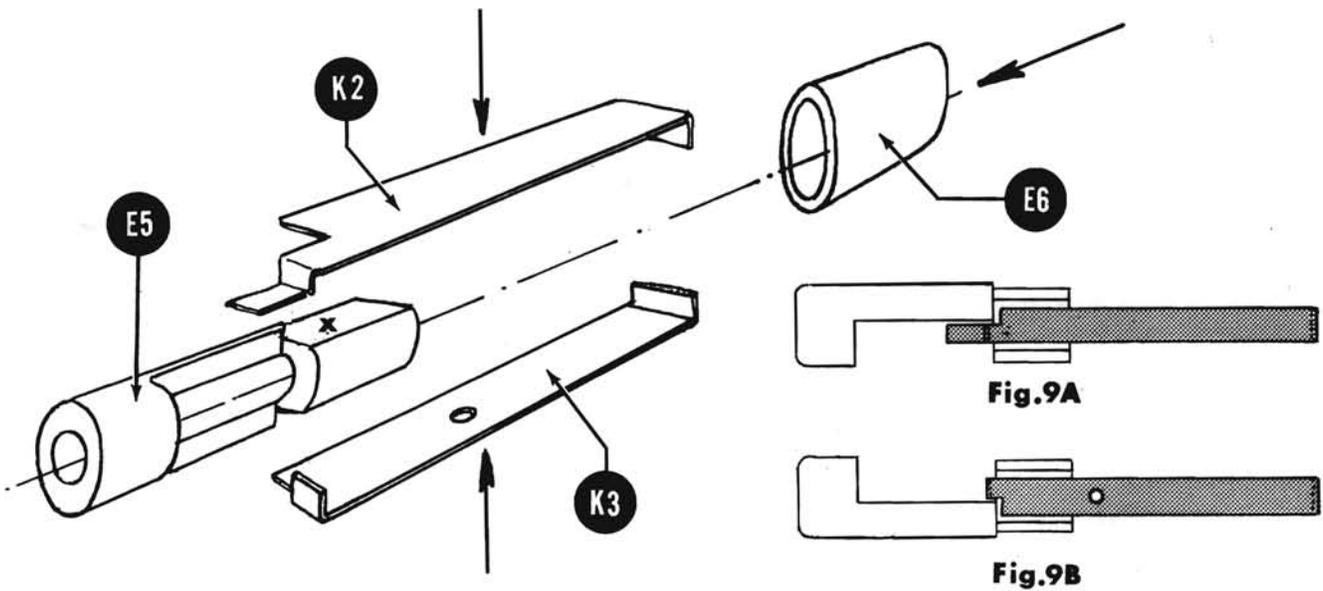

Fig. 9
- (✓) Fig. 9. Study the figure before proceeding with the assembly. Phosphor-bronze contacts K2 and K3 are formed differently and may not be interchangeable from the relative positions shown in the drawing. K2 and K3 can most easily be told apart by the small hole to be found in K3 but not in K2. Assemble as follows: Hold the black fiber contact holder E5 as shown in the figure. Lay K2 against the flat surface X of E5, position it as shown in Fig. 9A, and hold it there. Then lay K3 against the parallel flat surface of E5 underneath, position it as shown in Fig. 9B, and hold K3 in place also. Next catch the free ends of K2 and K3 in the large diameter Fiber tube E6, and then move E6 down over K2 and K3 to pin them against the flat surfaces of E5. This is a fairly tight fit and some force is required. E6 should finally rest against the shoulder of E5 past which it can not be moved.